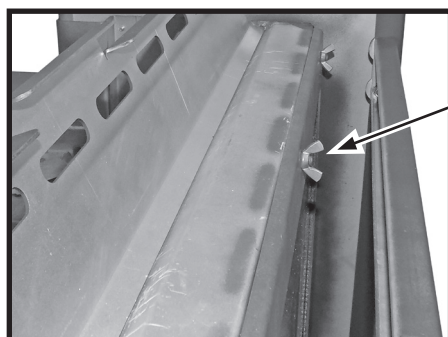
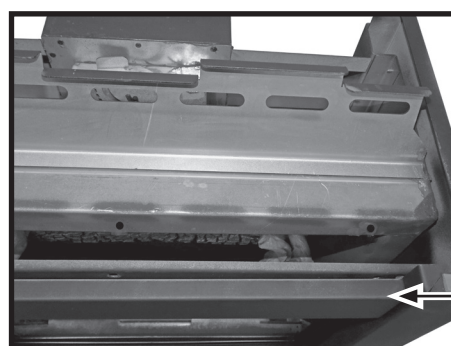

Figure 37: Door wing bolts.
Figure 38: TN24 glass door frame.
2. Remove the wing bolts (Figure 37) holding the glass door retainer frame to the gas stove frame and tilt the glass door (Figure 38) so that it can be removed